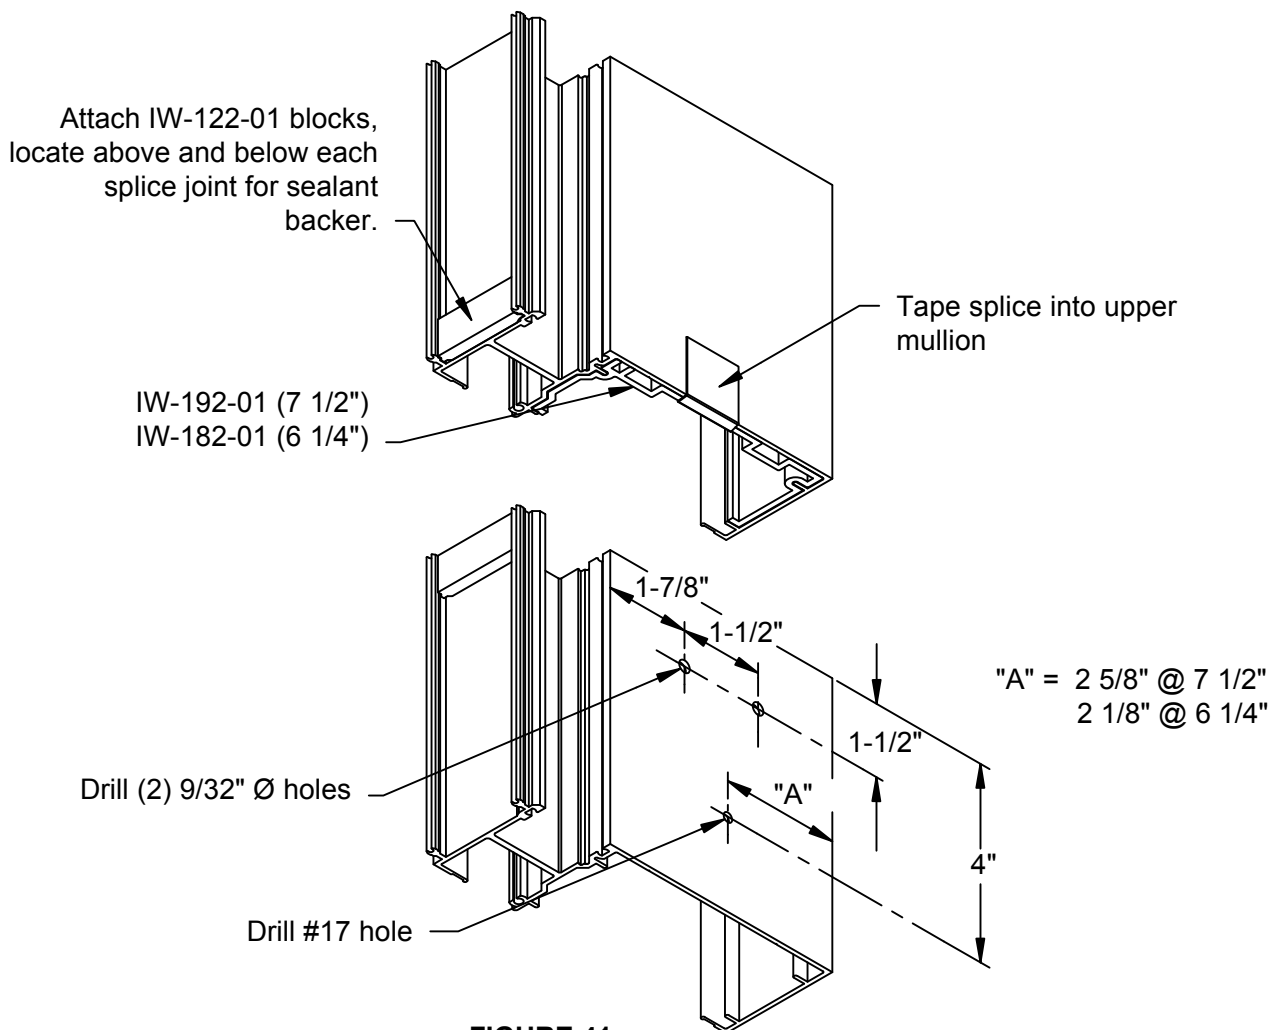

**FIGURE 40**
- T.4 Exterior glazed horizontal WW-442 and WW-542 require glazing adaptor WW-175 for 1/4" glazing. SEE FIGURE 40